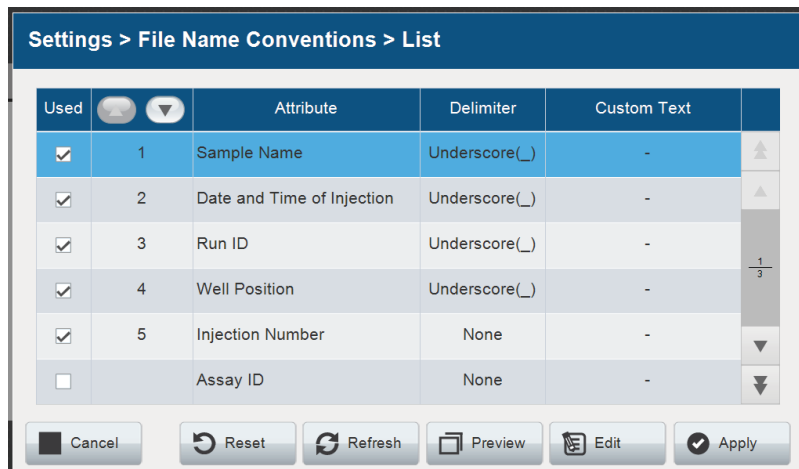

Figure 170. 'File Name Conventions List' screen.
4. Select the row you intend to edit from the 'File Name Conventions List' screen (Figure 170).